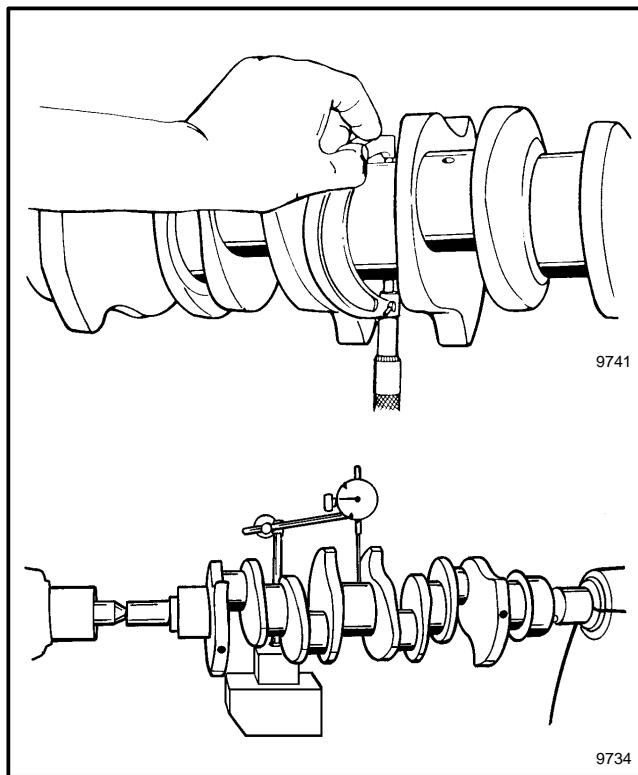

FIGURE 41. CRANKSHAFT INSPECTION
3. Inspect the crankshaft for wear and damage. See FIGURE 41. Use a micrometer to measure the journals for the bearings of the crankshaft. Do the measurement at different positions to see if the surface of the bearing is round. The correct sizes are given in the ENGINE SPECIFICATIONS.